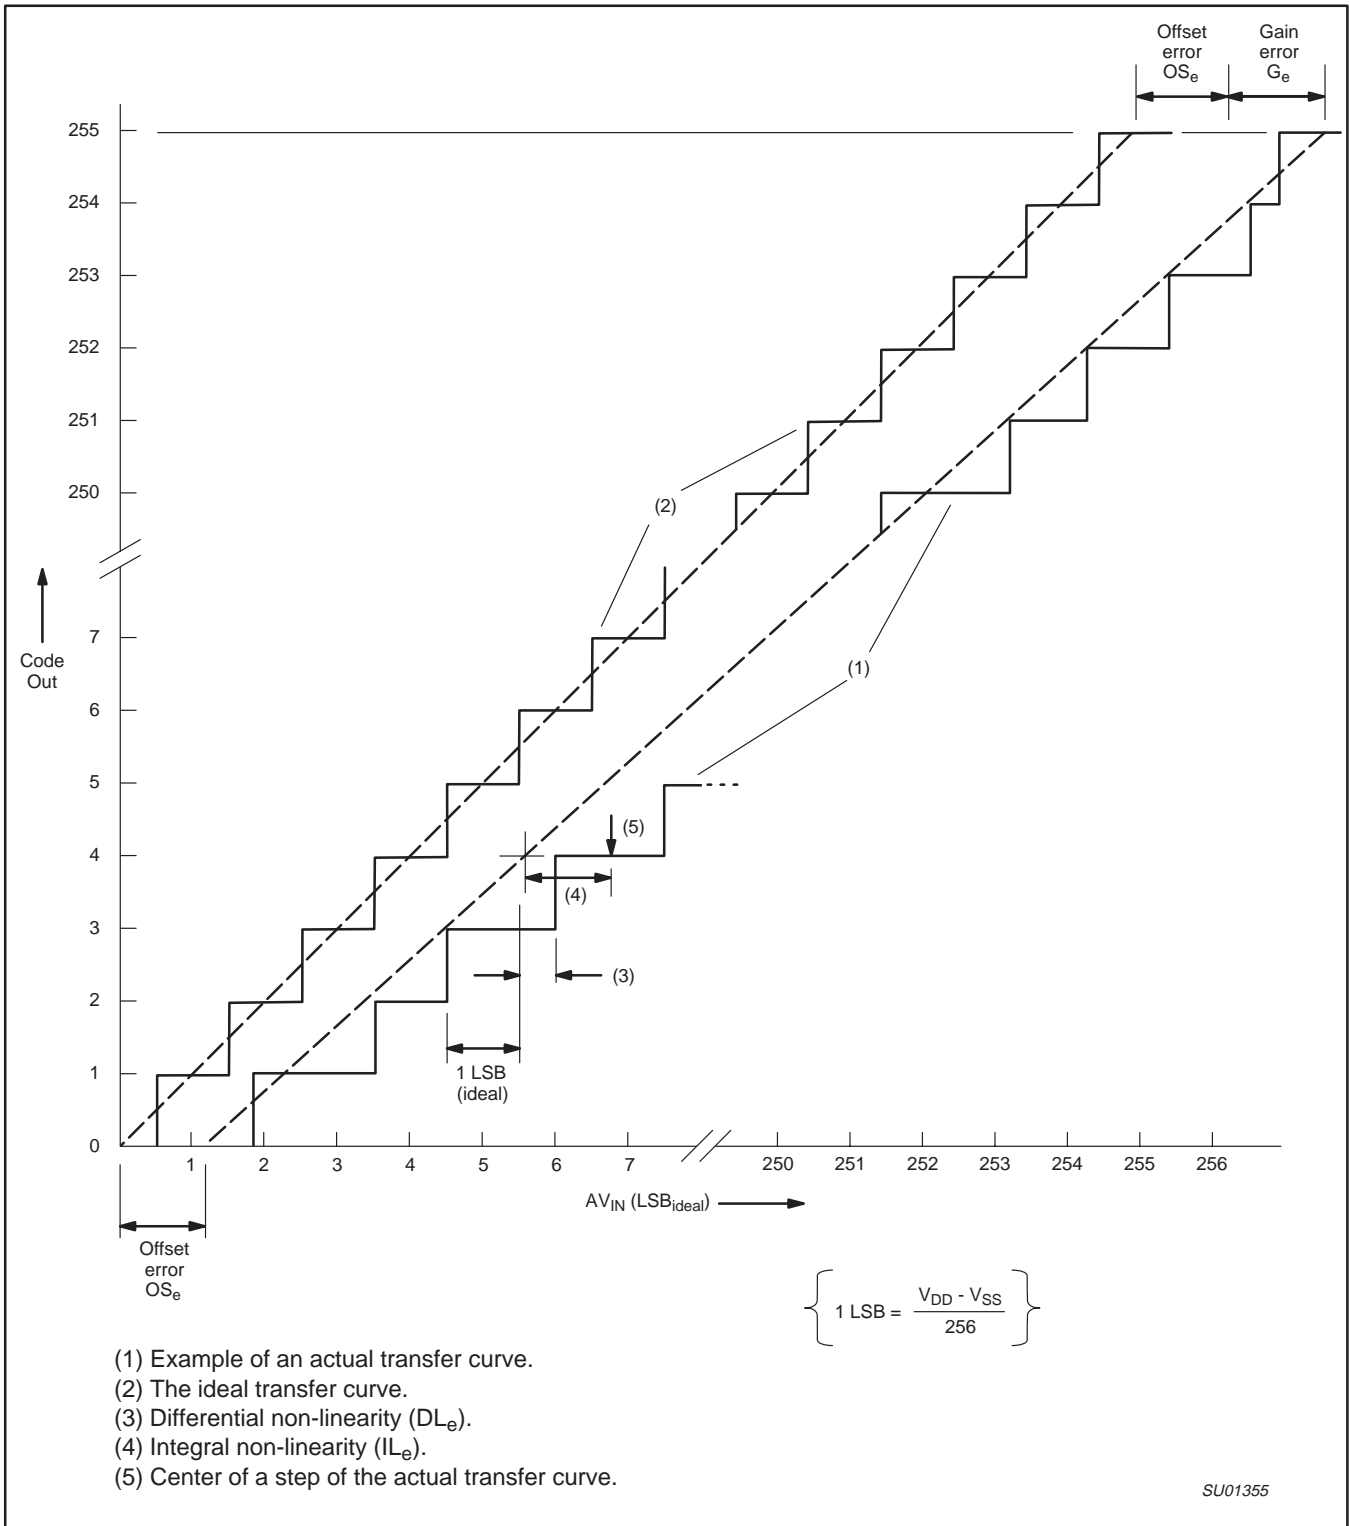

Figure 41. A/D Conversion Characteristics
3. The differential non-linearity ( $DL_e$ ) is the difference between the actual step width and the ideal step width. See Figure 41.
4. The integral non-linearity ( $IL_e$ ) is the peak difference between the center of the steps of the actual and the ideal transfer curve after appropriate adjustment of gain and offset errors. See Figure 41.
5. The offset error ( $OS_e$ ) is the absolute difference between the straight line which fits the actual transfer curve (after removing gain error), and the straight line which fits the ideal transfer curve. See Figure 41.
6. The gain error ( $G_e$ ) is the relative difference in percent between the straight line fitting the actual transfer curve (after removing offset error), and the straight line which fits the ideal transfer curve. Gain error is constant at every point on the transfer curve. See Figure 41.